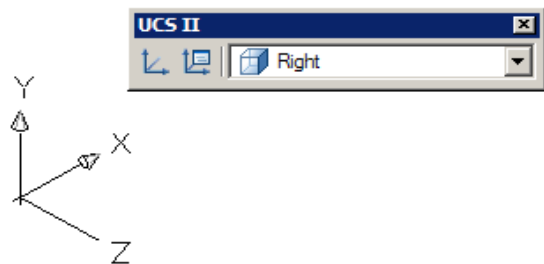

Figure Step 4
Step 4 Change the view to SE Isometric and the UCS to Right as shown in Figure Step 4.